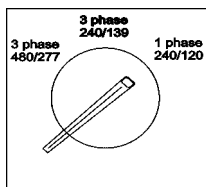

Figure 49. Voltage Selection Switch
6. Check the voltage selection switch is at the desired voltage (Figure 49).